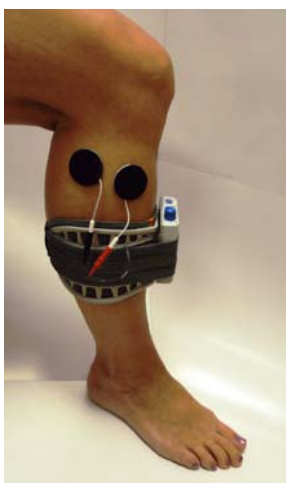

Figure 19
3. Moisten the electrodes with water. Place the back electrode overlapping the posterior and inferior borders of the fibular head and the front electrode on the upper 1/3 of the tibialis anterior muscle belly. (Figure 19)
4. Connect the electrodes to the WalkAide electrode lead cable. Make sure the BLACK lead (negative) is connected to the BACK electrode and the RED lead (positive) is connected to the FRONT electrode (Figure 19).